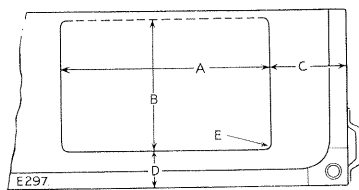

Fig. T-24—Position of cut-out in L.H. side wheel arch locker base—109 models
43. Cut out the aperture 15 x 12 in. (381 x 305 mm) in the L.H. side wheel arch locker box base, as shown at Fig. T-24.